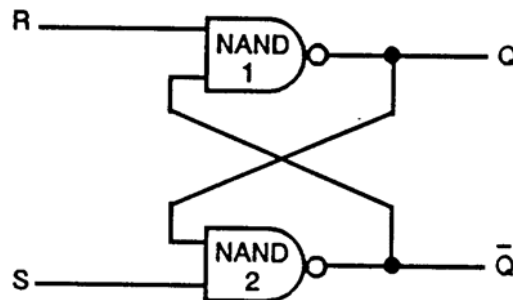

Figure Q-25. R-S Flip-Flop with NAND Gates
(11) At this time, assume that both inputs are brought high. Logically it cannot be determined what state the outputs will assume and this condition should not be allowed to occur.
(12) This example is only one way that an R-S FF can be constructed. Another example would be using NAND gates. Figure Q-25 shows this configuration.